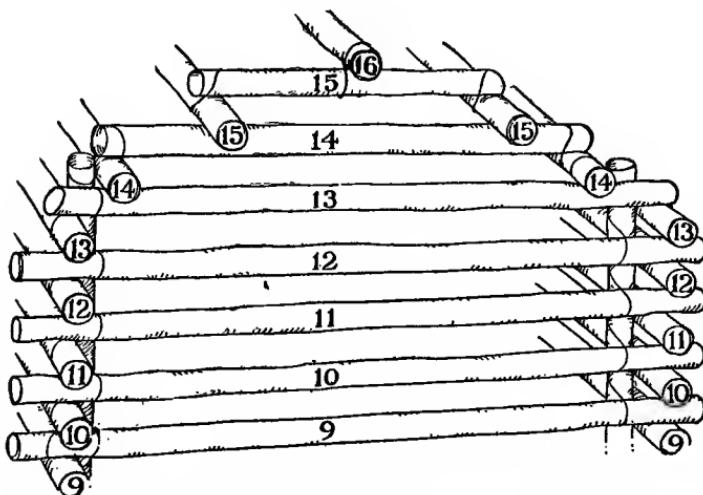
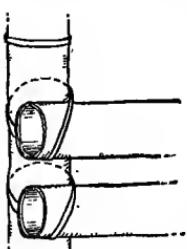

FIG. 406.—How the Logs are Connected at the Corners with String.
FIG. 407.—How the Cabin Logs are Fastened to the Entrance Posts with Rubber-Bands.
to the cabin walls. To hold these posts in position until the walls have been built up to the point shown in Fig. 401, it will be necessary to place a chair or stool against each. The logs should be fastened to the corner posts with string (Fig. 406), and to the entrance posts with rubber-bands (Fig. 407), or with string. The eleventh front log
**The Roof Framework.** When you have placed the thirteenth tier of end logs in position (Fig. 406), set the next tier of side logs (No. 14, Fig. 406) inside of the tops of the corner posts. Then cut off end logs No. 14 so they will just extend from one side log No. 14 to the opposite one. Set side logs No. 15 about 12 inches nearer the center